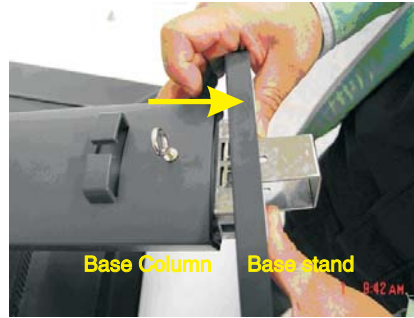

Fig.6
Step 4: Pull out the foot from base as Fig.6, Fig.7.